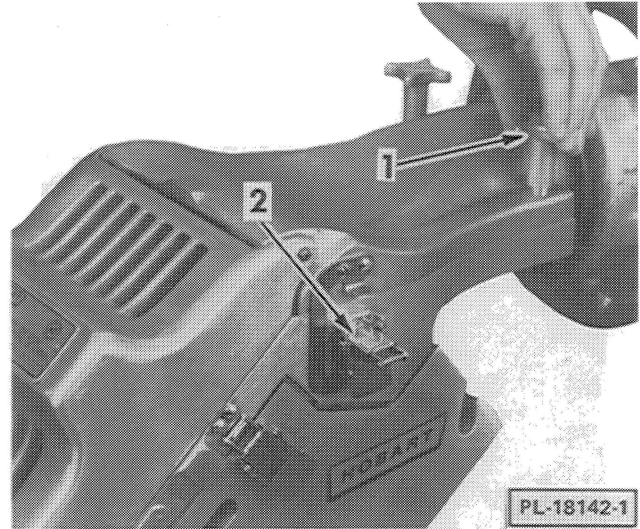

Fig. 6
- Tighten the two clamping knobs (1, Fig. 6), and latch the two orifice clamps (2, Fig.6).